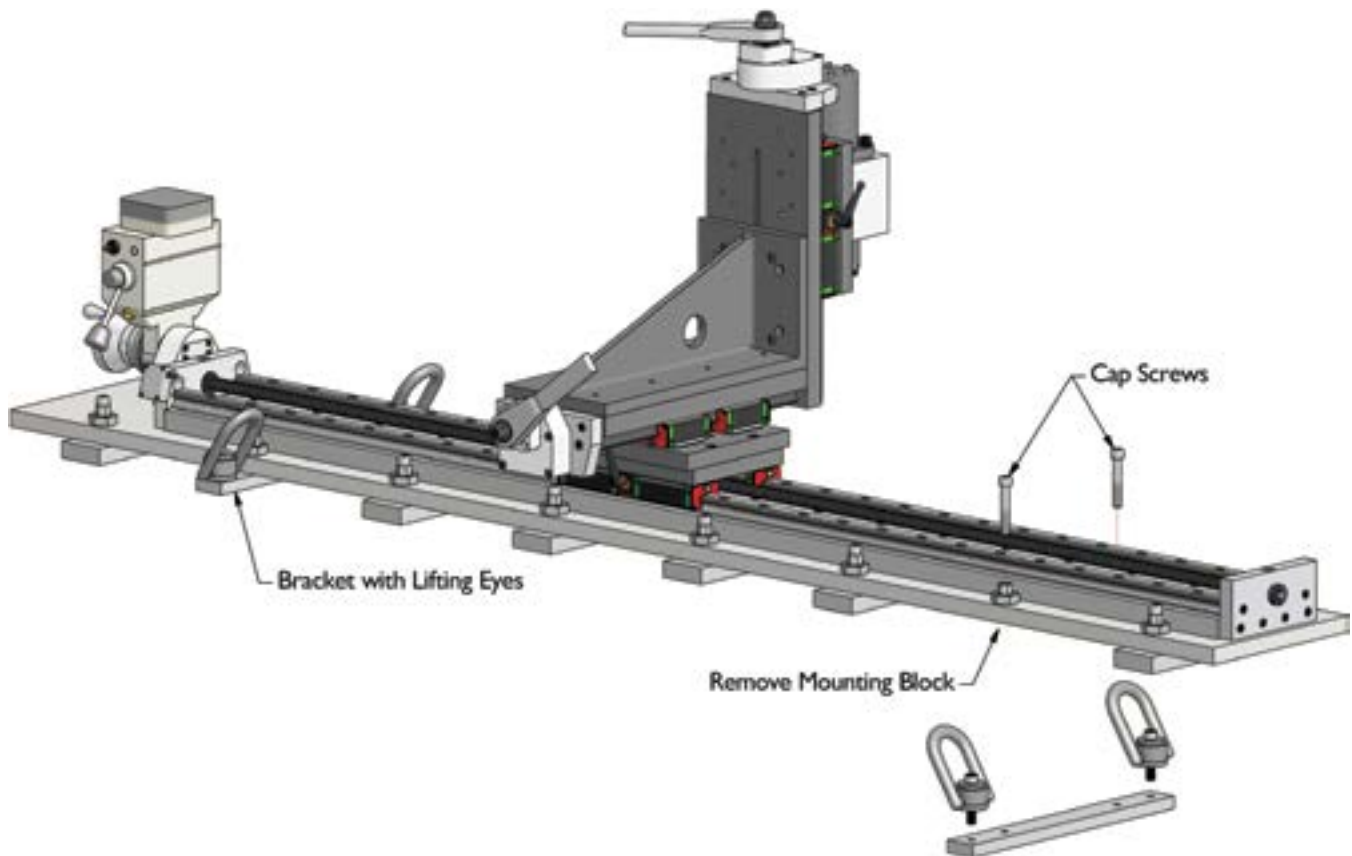

Figure 1 - Install Lifting Eyes
1. Move the Y-Z slide assembly to the center of the machine to balance the load. Remove two mounting blocks from the base where the lifting eye brackets will be installed. Position the lifting eye brackets to balance the load. Make sure the lifting eyes are securely fastened to the brackets. Use the cap screws to attach the lifting eye brackets to the base. See Figure 1.